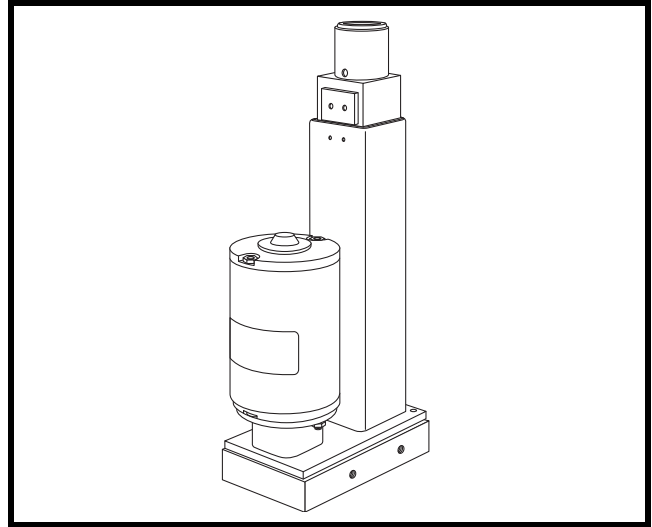

Figure 11. Power Elevating Seat Actuator
1. Align the seat shaft to the hole in the actuator. **See figure 11.**